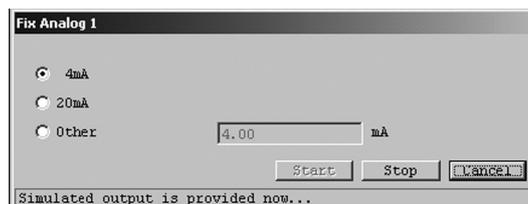

Fig.119
- ④ Click the "OK" button to cause the set analog value to be outputted. While the simulated output value is being outputted, a message at the bottom of the window will indicate that the system is "creating simulated output", as shown in Fig. 119.